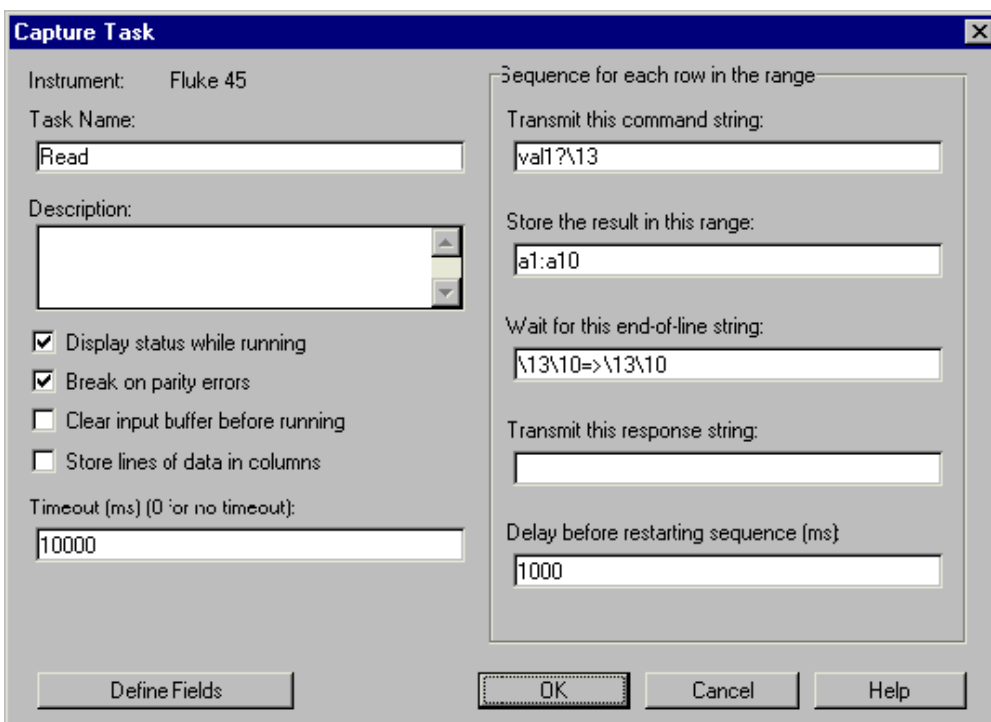

Figure 2-4. Capture Task Dialog Box for Creating a Read Task
1. Click on the **New Capture** button, and the Capture Task dialog box appears, shown in Figure 2-4.